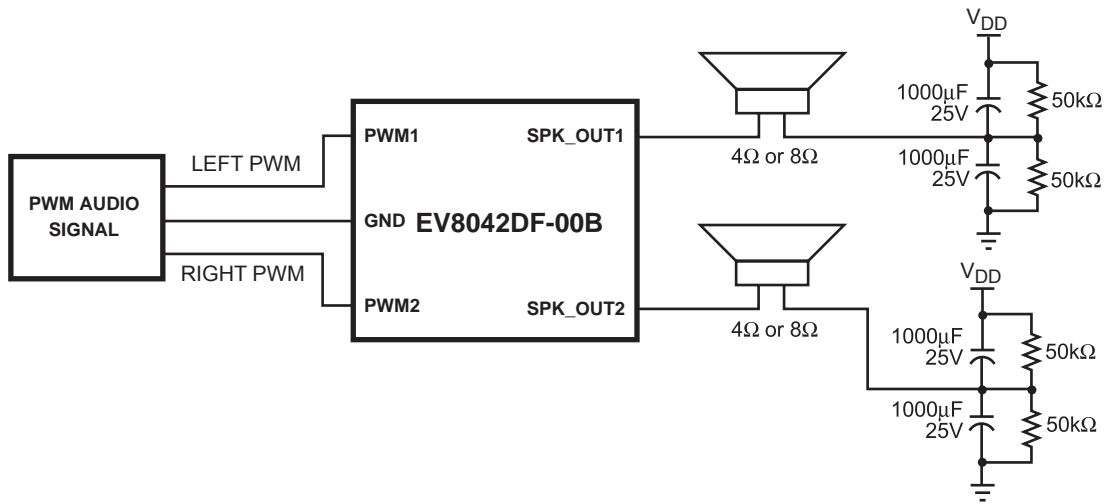

Figure 5—Setup for Single-Ended Operation
4. Remove C10 and connect the speakers as shown in Figure 5.